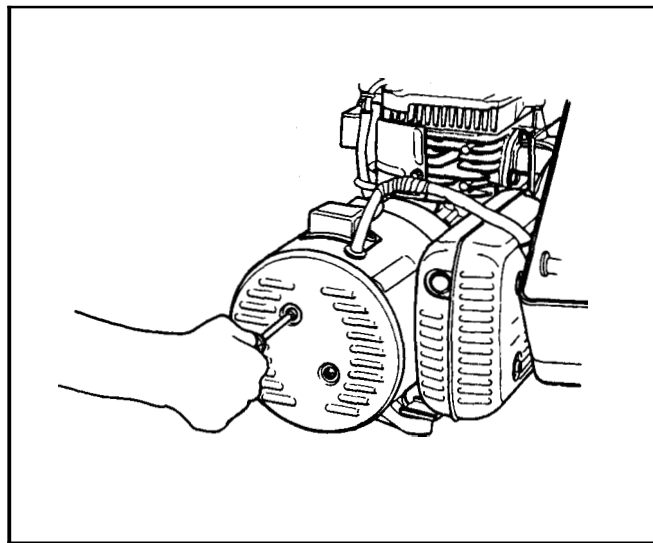

Figure 54
5. Remove the end cover of the generator. See Figure 54.